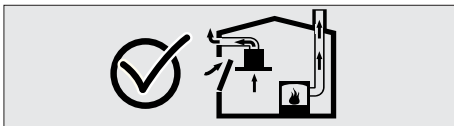

Figure 3
■ Therefore, adequate fresh air ingress must always be ensured. Fig. 3